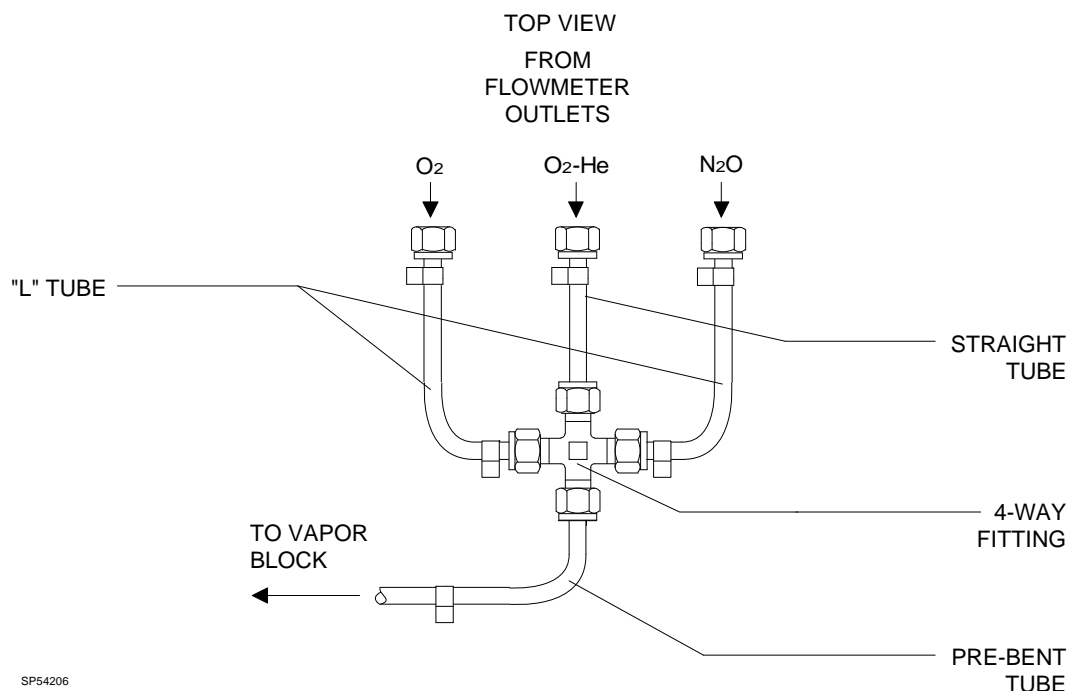

Figure 5: THREE-GAS MANIFOLD ASSEMBLY
28. Install a ¼ in.dia. "L" tube (P/N 4110837-004) between a 4-way fitting (P/N 4102772) and the N₂O flowmeter outlet as shown in Figure 5. Do not tighten the fittings. Install a N₂O label on each end of this tube.
29. Install a ¼ in.dia. "L" tube (P/N 4110837-004) between the 4-way fitting and the O₂ flowmeter outlet as shown in Figure 5.
30. Install a ¼ in.dia. straight tube (P/N 4110834-004) between the 4-way fitting and the O₂-He flowmeter outlet as shown in Figure 5. Install a "O₂-He" label on this tube. Tighten these connections and all those that were made in the previous two steps.
31. Install a ¼ in.dia. (P/N 4104204) pre-bent copper tube between the remaining port on the 4-way fitting and the vapor block inlet. Tighten the fittings and install a "MIX" label on each end of this tube. A top view of the manifold arrangement is shown in Figure 5.